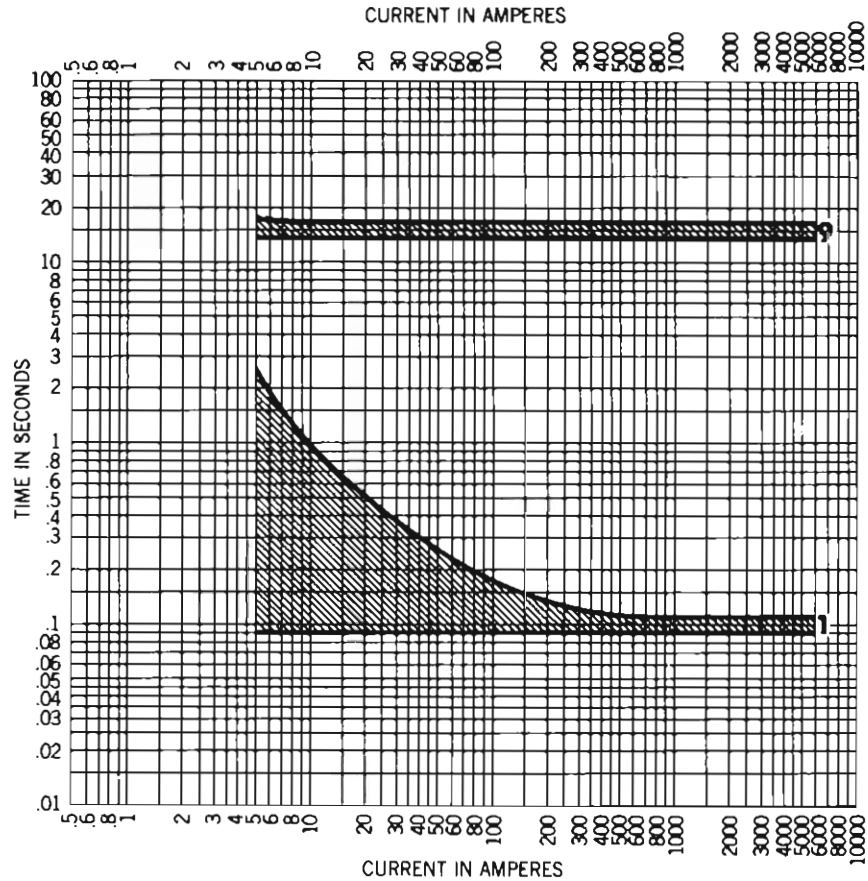

Figure 30.
Clearing times available are: 0.1, 0.2, 0.5, 1.0, 2.0, 3.0, 5.0, 10, and 15 seconds. Figure 30 illustrates typical ground trip clearing times. The upper curve (9) is the 15 second and the lower curve (1) is the 0.1 second clearing characteristic. The complete set of clearing curves is published in McGraw-Edison Reference Data Bulletin 73004.